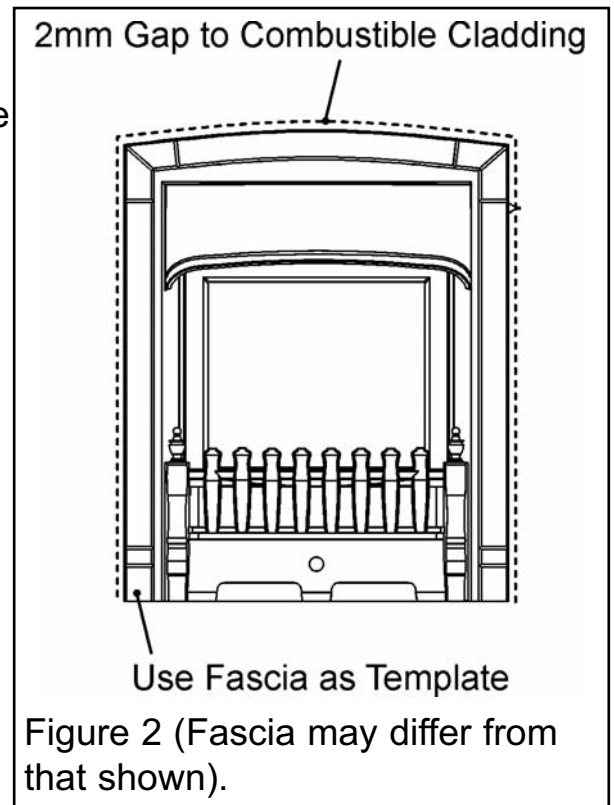

Figure 2 (Fascia may differ from that shown).
**4.7.4** If the appliance is to be fitted against a wall with combustible cladding, the cladding must be removed from the area covered by the fascia. The cladding must also not touch the fascia (See figure 2). We suggest that the actual fascia is used as a template to mark the area for combustible cladding removal and that this area is increased by at least 2mm all round.